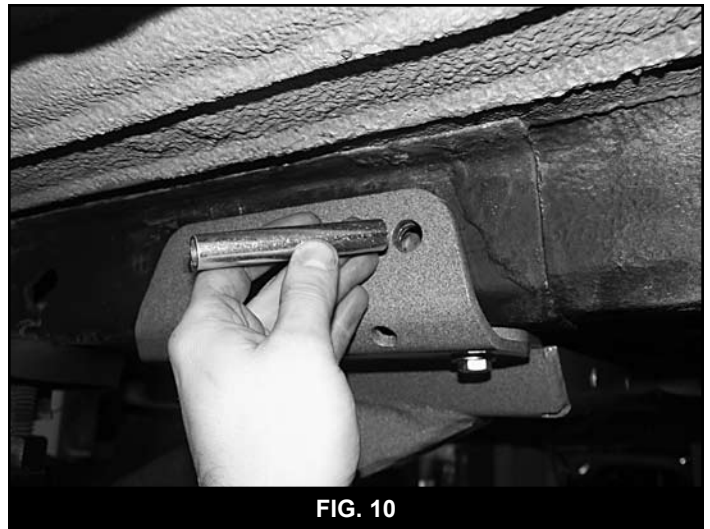

FIG. 10
24. Insert the provided 5/8" x 3-5/8" frame crush sleeve (22-1) in the 5/8" hole just drilled in the frame (Fig 10). Do not push it all the way in at this time.